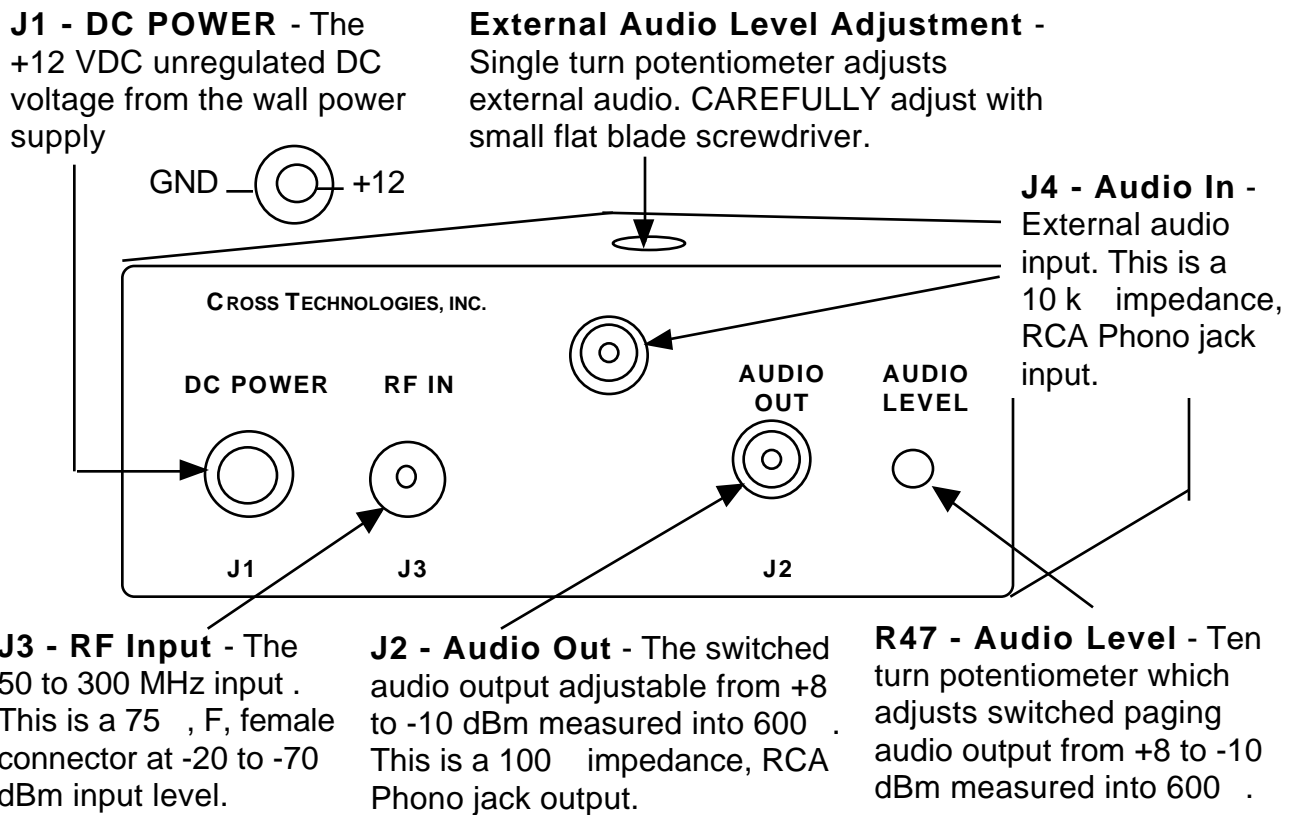

FIGURE 2.3 210-01 Rear panel Inputs, Output, Control
2.3 Input / Output Signals - See Figure 2.3.